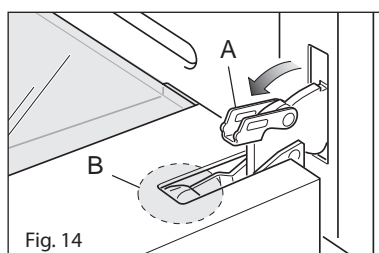
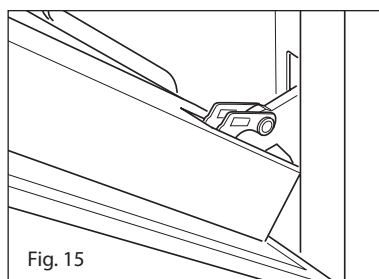

Fig. 14
Fig. 15
- Fully open the lever **A** on the left and right hinges (Fig 14).
- Gently close the door (Fig. 15) until the left and right hinges are hooked to part **B** of the door (Fig. 14).
1. Make sure the door is locked open (see fig. 15).